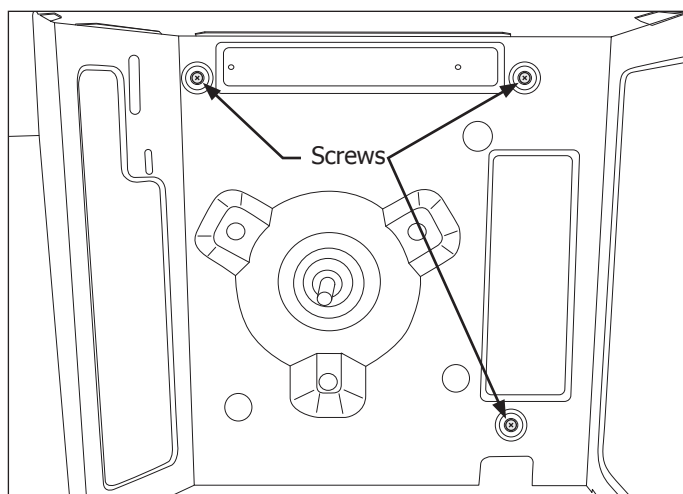

Figure 4-24.
4. Extract the three screws securing the rear section of the condenser fan assembly from the right bulkhead partition. (See Figure 4-24)